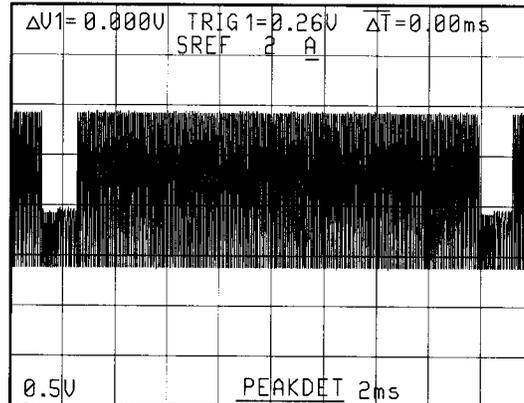

Figure 3-28: Multi-burst Signal Triggered in TV Field
- Step 5:** Adjust the **TRIGGER LEVEL** to stabilize the display (Figure 3-28).